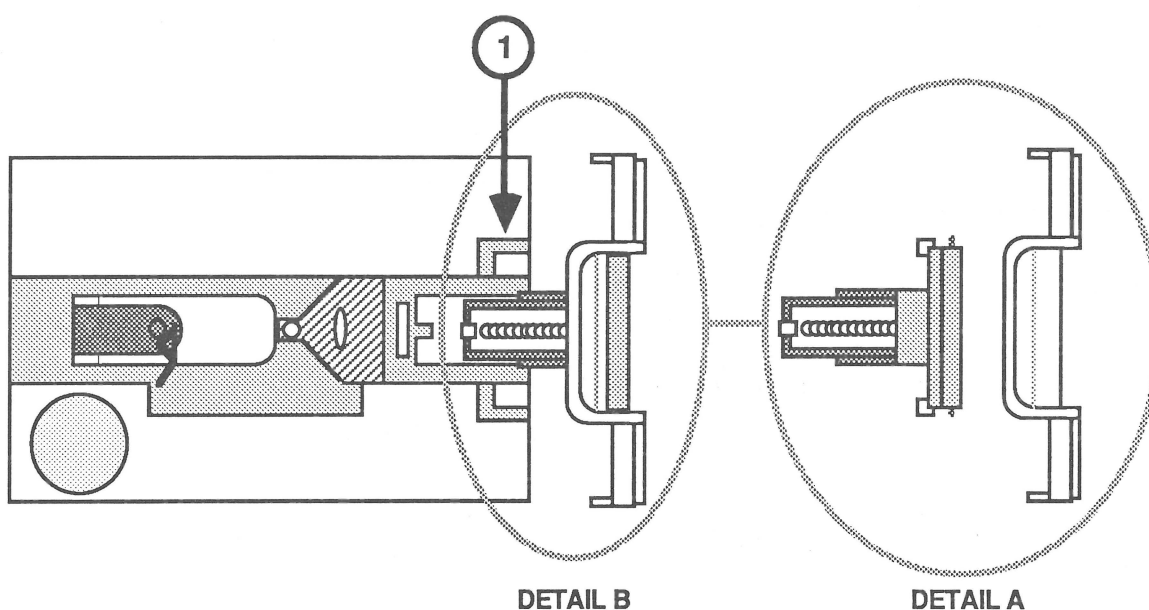

FIGURE 6
1. Put the door in the bezel (Figure 6, detail A).
2. Hold the door and bezel together. Slide the projecting part of the door partway into the grooves of the hub frame (Figure 6, detail B).
- a) Push down the hub frame so that its aluminum arms (Figure 6, #1) fit under the top edge of the bezel.